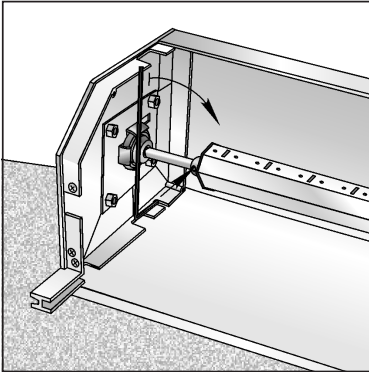

Fig. 23
- tighten the screw by force to make a cast at the rod (Fig. 23);